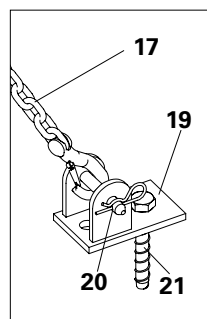

Fig. A10.11
1. Mount RS base plate (19) on the existing construction with the PERI anchor bolt 14/20 x 130 (21). Bracing angle 60°. (Fig. A10.11)
2. Attach the 3.0 kN anchor chain (17) to the 3.0 kN turnbuckle (18) and attach the 3.0 kN turnbuckle (18) to the RS base plate.